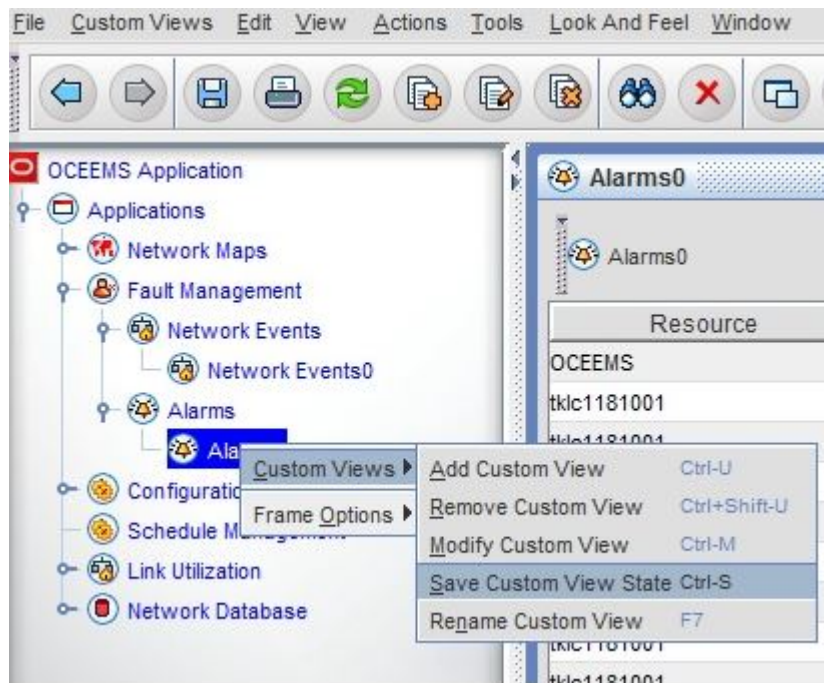

Figure 195: Saving Custom View By Using Left Navigation Pane
- Right-click on the custom view node under the Network Events or Alarms node in the left navigation pane, and choose **Custom Views > Save Custom View State** as shown in Figure 195: Saving Custom View By Using Left Navigation Pane.